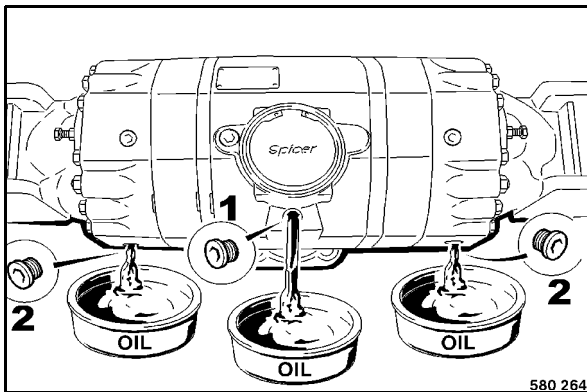

Fig. 173
- Clean and unscrew all level inspection and drain plugs (Fig. 173).